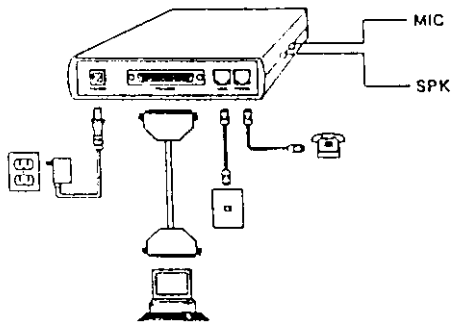

Figure 2-1 External Modem
2. Plug the male (25 pins) end of the serial cable into the connector marked RS-232 on the back of the modem (see Figure 2-1).